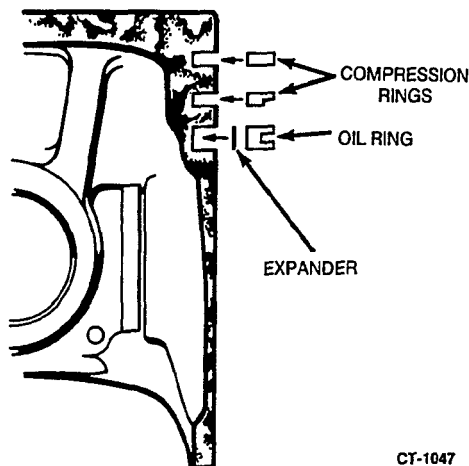

FIGURE 9-25. PISTON RINGS
3. Install the rings on the pistons starting with the oil control ring (Figure 9-25). Use a piston ring spreader to prevent twisting or excessive expansion of the ring. Compression rings have a dot or the word "top" on one side of the ring to indicate which side faces the top of the piston. Unmarked piston rings can be installed either way. The oil control ring has an expander, install the expander first and then close until the expander ends butt. The joint should be 180 degrees from the gap of that ring.